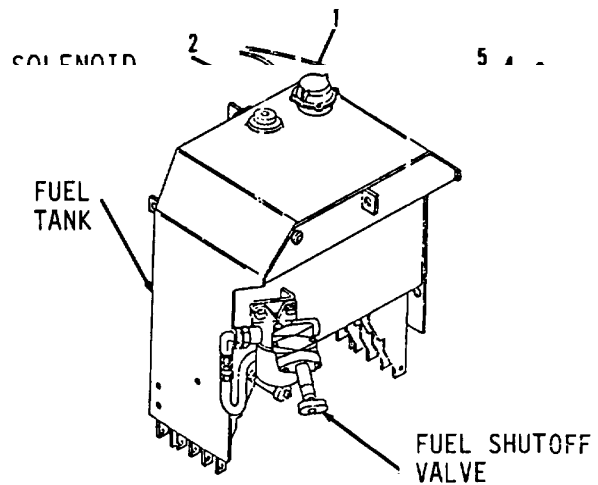

Figure 3-3.
39. Install cable assemblies (7 and 6), wire assembly (5), lockwasher (4) and nut (3) to solenoid "battery" terminal. Tighten nut (3) to 22 ft-lb torque.
40. Install wire assembly (2) at terminal and nut (1) on "S" terminal of solenoid (9).
41. Turn fuel shutoff valve counterclockwise on right front of fuel tank to turn fuel on (Figure 3-3).